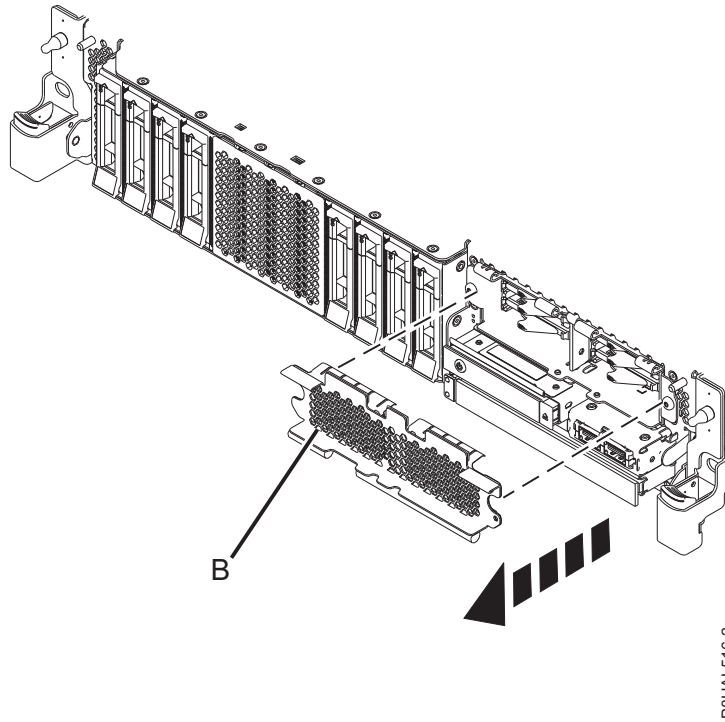

Figure 42. Removing the SSD cage cover to access the SSD slots in an expanded function system
10. To access the SSD slots, remove the perforated plate (B) covering the SSD cage as shown in Figure 42 on page 44.